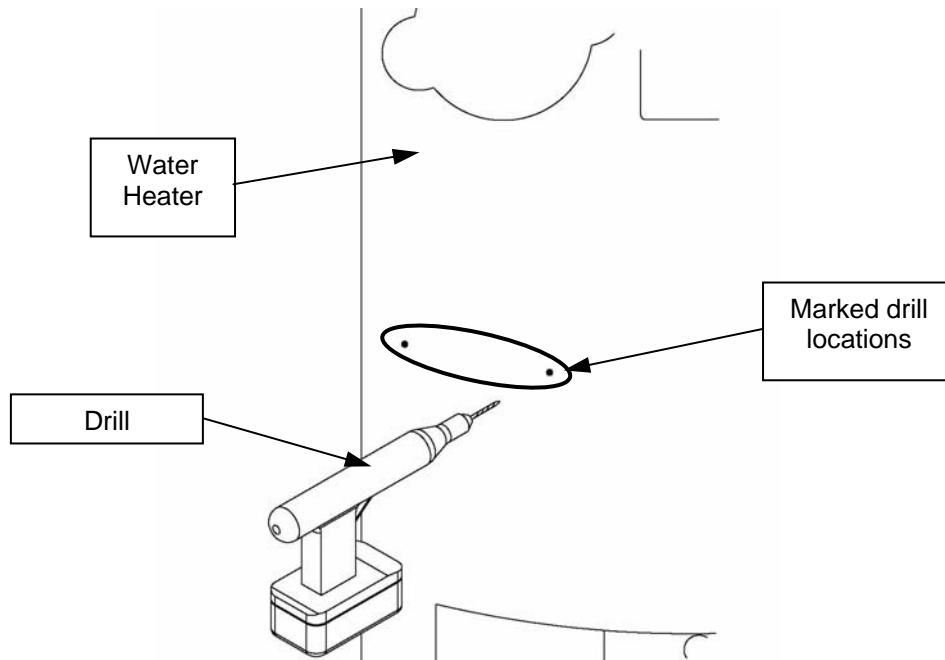

Figure 7
Step 7: Using a 1/8" drill bit and drill, drill the (2) screw holes that were marked in Step 5. This is shown in Figure 7.